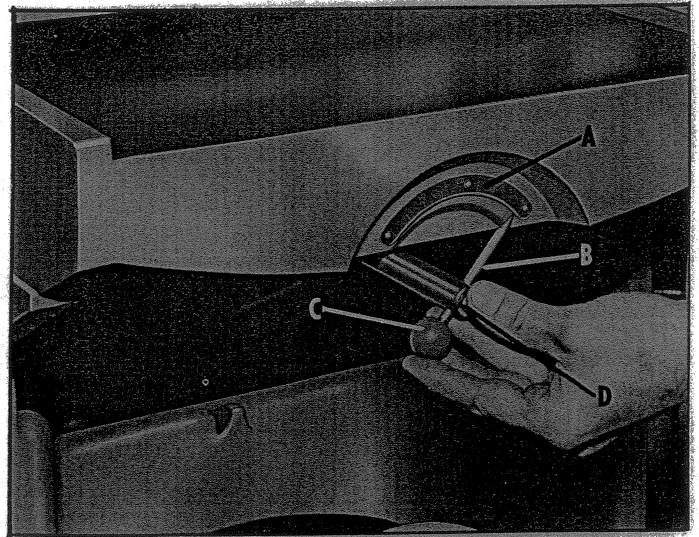

Fig. 5
7. Attach the height scale (A) Fig. 5, using the three drive screws. Insert pointer (B) in hole in cam shaft, screw on knob (C) and install round head screw (D) Fig. 5.